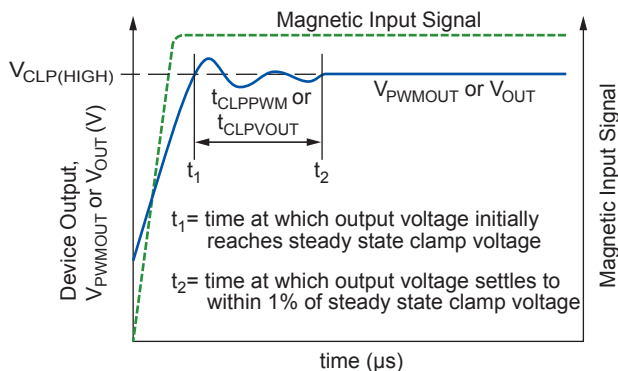

Figure 4. Definition of Delay to Clamp
**Delay to Clamp** A large magnetic input step may cause the clamp to overshoot its steady state value. The delay to clamp,  $t_{CLPVOUT}$ , is defined as the time it takes for the output voltage to settle within 1% of its steady state value after initially passing through its steady state voltage. This is conceptually the same for the PWM output duty cycle settling to the steady state value. (See figure 4.)